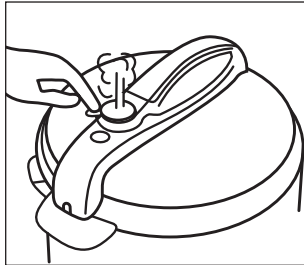

Figure 11a
- In case of no time pre-set, press the Menu Buttons (31-35) or Function menu Button (36), the indicator will light up, denoting start of cooking.
- a. If you press any Menu Buttons (31-35) on the Control Panel (10) the Display (27) will show "P00".
- b. If you press the Function menu Button (36), the Display (27) will show "P00" (00 denotes setting pressure holding time; for example, if you set 15 minutes, the display will show "P15"), and the pressure holding time decreases each time by 1 minute.
- When pressurizing is over, it will deliver 3 rings, the working indicator will go out and the display shows "000", reminding end of cooking and start of heat preservation. The Keep warm/Cancel Indicator (30) flashes if pressure inside is high: the indicator remains light if pressure inside is low.
- Press Keep warm/Cancel Button (30) to cancel parameter setting or current working status.
- When no parameter set or not in working status, press Keep warm/Cancel Button (30), the Keep warm/Cancel Indicator (30) will light up, indicating the start of heat preservation: press in once again to cancel heat preservation and the indicator will go out.
8. Keep warm/Cancel Indicator (30) flashes to indicate the food is ready. Take out the food in the following steps:
- Press Keep warm/Cancel Button (30) to stop heat preservation.
- Turn the Relief Valve (3) to “exhaust” position to release steam till the Floating Valve (4) is down in place (see the figures 11a, 11b).